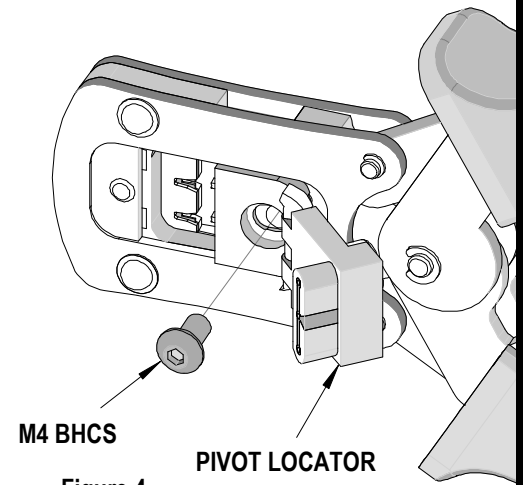

Figure 4
2. Remove the M4 BHCS. See Figure 4.
1. Place the proper locator, on the hand tool. Install the M4 BHCS. See Figure 4.